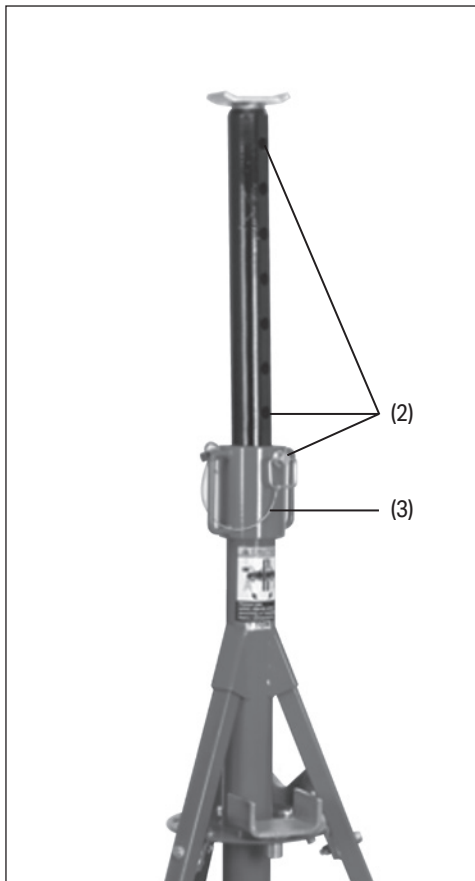

Fig. 2
7.1 Adjusting the Saddle Height - Fig. 2: